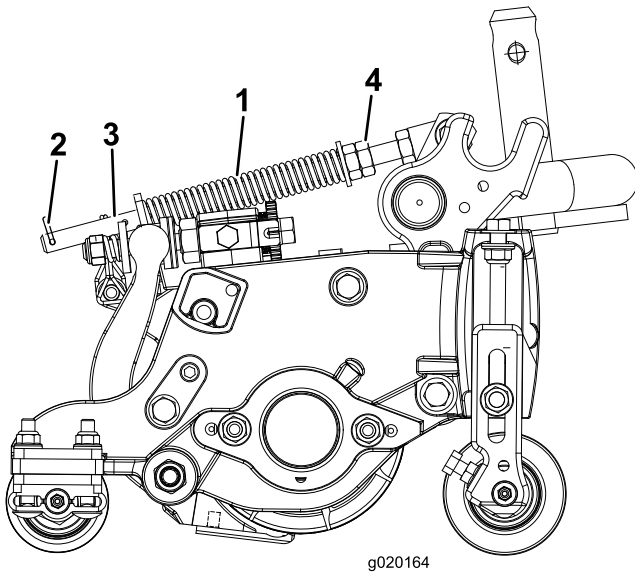

Figure 14
The turf compensation spring (Figure 14) transfers weight from the front to the rear roller. This helps to reduce a wave pattern in the turf, also known as marcelling or bobbing.
1. Make sure that the hairpin cotter is installed in the rear hole in the spring rod (Figure 14).
2. Tighten the hex nuts on the front end of the spring rod until the compressed length of the spring (Figure 14) is 12.7 cm (5 inches) for 5-inch cutting units and 15.8 cm (6-1/4 inches) for 7-inch cutting units.